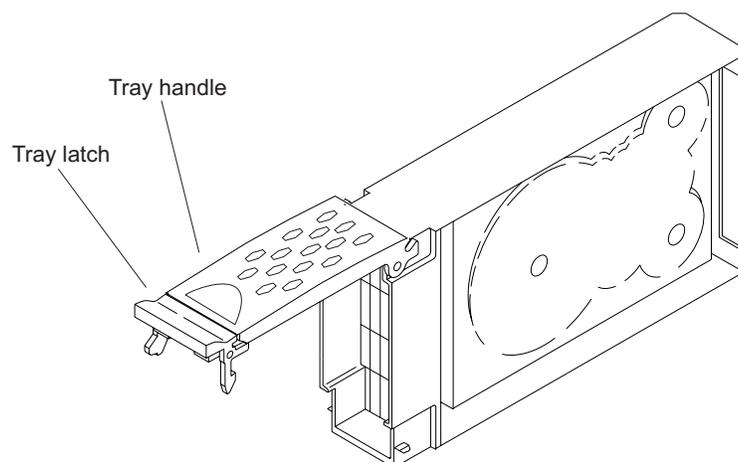

Figure 39. Drive CRU handle
- b. Pull the handle on the tray out so that it is in the open position, as shown in Figure 39 on page 58.
- a. Release the latch on the drive CRU by pinching together the blue line on the tray latch and the finger hole on the tray handle, as shown by the arrow in Figure 39.